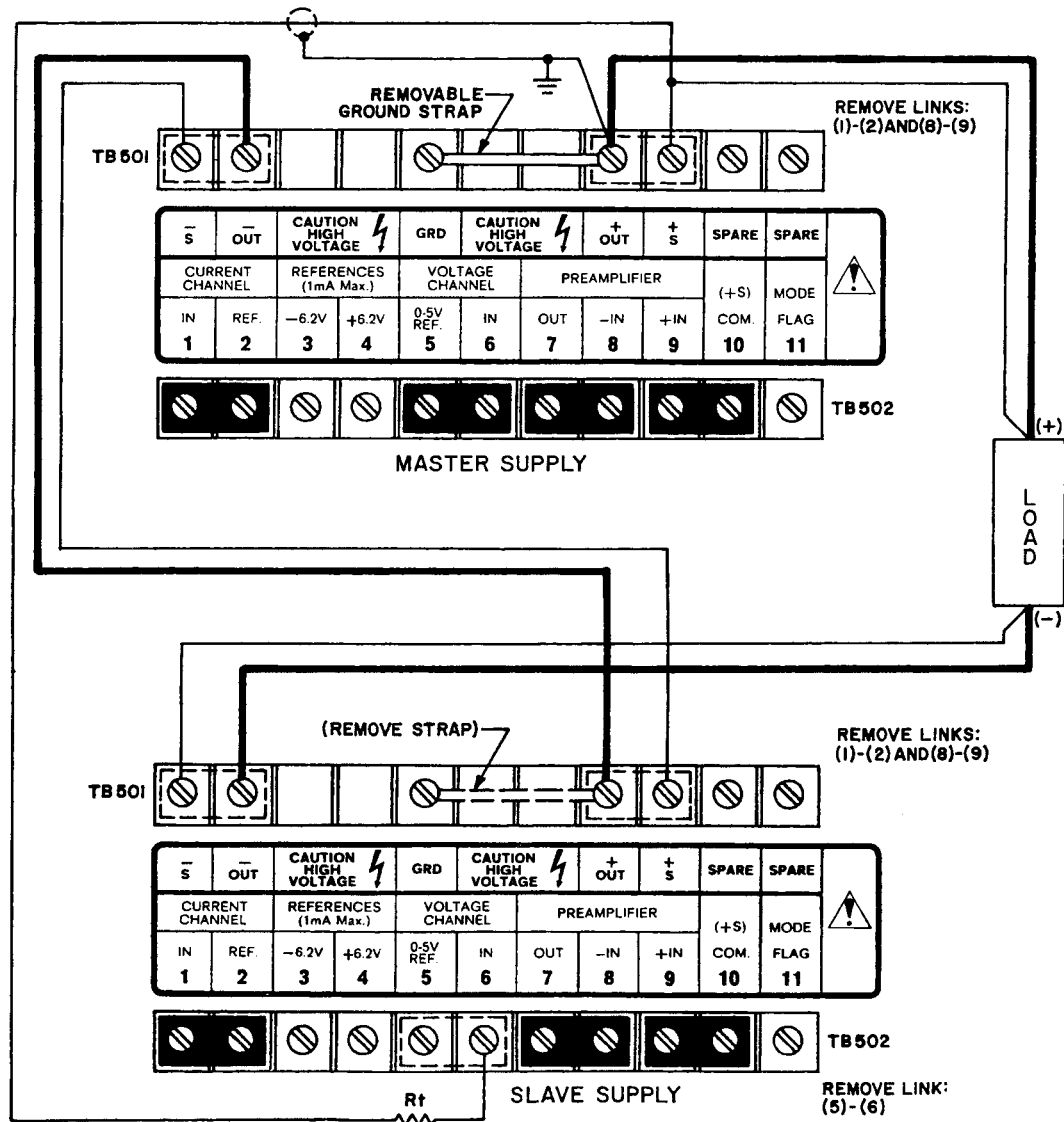

FIG. 3-11 "MASTER/SLAVE" SERIES CONNECTION OF TWO MODEL APH 500M POWER SUPPLIES.
3-43 MASTER/SLAVE SERIES OPERATION. (Refer to FIG. 3-11). In this mode of operation, the total output voltage of all supplies in the series connection is controlled from a common "Master" supply, while the voltage output of the "Slave" supplies "follow" the output voltage of the "Master" in a ratio which can be selected by the user.
3-44 (Refer to FIG. 3-11.) As seen from the illustration, the internal voltage control amplifier of the "Slave" supply is disconnected and its control current is now derived from the output of the "Master" supply, via the "tracking" resistor ( $R_t$ ). The "Slave" output is therefore completely dependent on the "Master" supply output:
As seen from the equation, the ratio with which the "Slave" supply follows the output of the "Master" is determined by the ratio ( $R_f/R_t$ ). If a 1:1 ratio is desired, for example, the value of the feedback resistor of the "Slave" unit is selected to equal this value. The output of the "Slave" supply will now "follow" that of the "Master" in the 1:1 ratio established. Other ratios can be selected by choosing the value of  $R_t$  proportionally. If a single load is connected to the series connection (FIG. 3-11), the total output voltage will equal the sum of "Master" and "Slave" output voltages. If individual loads are connected to "Master" and "Slave" supplies, all load voltages will equal that of the "Master" supply (for a 1:1 tracking ratio).
- 1) Interconnect the power supplies as shown in FIG. 3-11. Turn "Slave" current controls to their maximum *clockwise* positions. Turn "Master" *voltage* control to its maximum *counterclockwise*, and the *current* control to the maximum *clockwise* position.